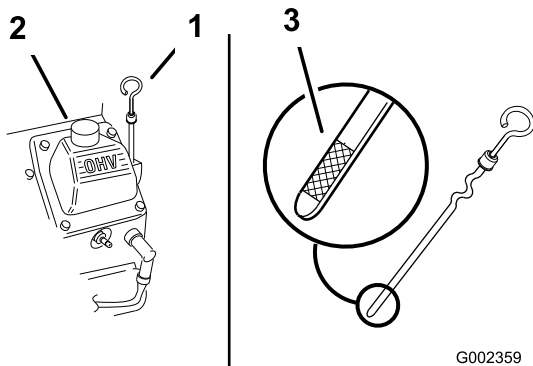

Figure 31
4. Clean around the oil dipstick (Figure 31) so that dirt cannot fall into the filler hole and damage the engine.
5. Unscrew the oil dipstick and wipe the end clean (Figure 31).
6. Slide the oil dipstick fully into the filler tube, but do not thread onto tube (Figure 31).
7. Slowly pour approximately 80% of the specified oil into the filler tube (Figure 31).